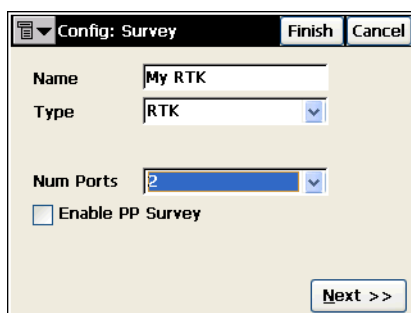

Figure 2-17. Config: Survey – MultiPort
- *MultiPort*: enables the *MultiPort* functionality (Figure 2-17).